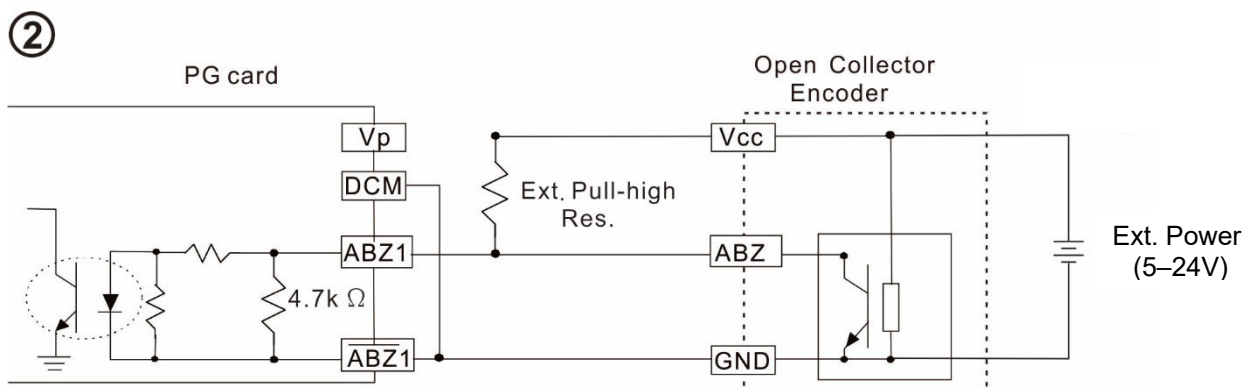

Figure 8-53
**NOTE:** Open Collector application: input current 5–15 mA to each set and each set needs one pull-up resistor. If the input voltage of the open collector is 24 V, power for the encoder must be connected externally. Refer to diagram 2 of PG1 (Figure 8-53).